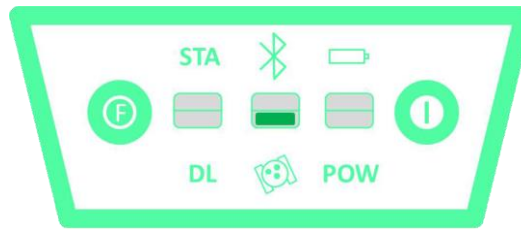

Fig. 2-10 Satellite Light
**SAT (green)**: Satellite light (Fig. 2-10).